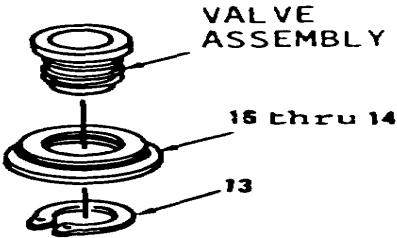

Figure 6-32.
- 16. Install items 16 thru 14 as an assembly (Figure 6-32) onto valve assembly.
- 17. Install retaining ring (13) onto valve assembly.